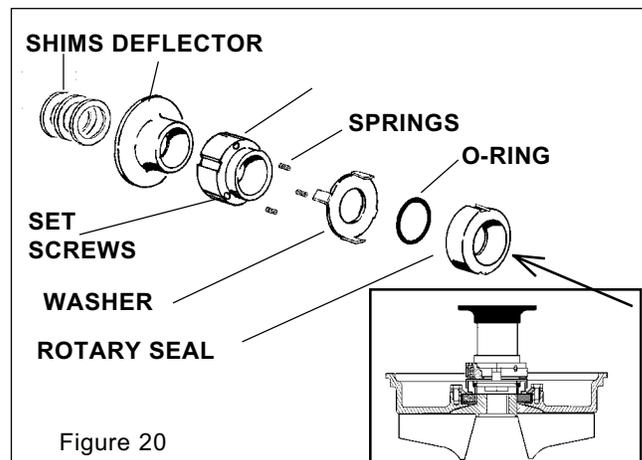

Figure 20
6. Pull off impeller/backplate assembly and place on a clean flat surface with impeller shaft up. (INSET, Figure 20) Locate shims on motor shaft and remove.
- A. Consult Waukesha Cherry-Burrell if assembly cannot be removed from motor shaft by hand. Telephone ((800) 252-1218
7. Remove deflector, loosen set screws (2) in spring retainer and slide retainer and washer off shaft. Save springs (3). (Figure 20)
8. Use backplate to slide rotary seal up the impeller shaft approximately 1-1/2 inches. With the backplate resting on the impeller, push the rotary seal toward the backplate until the O-ring is free. Remove O-ring then lift rotary seal off shaft. (See Figure 20)